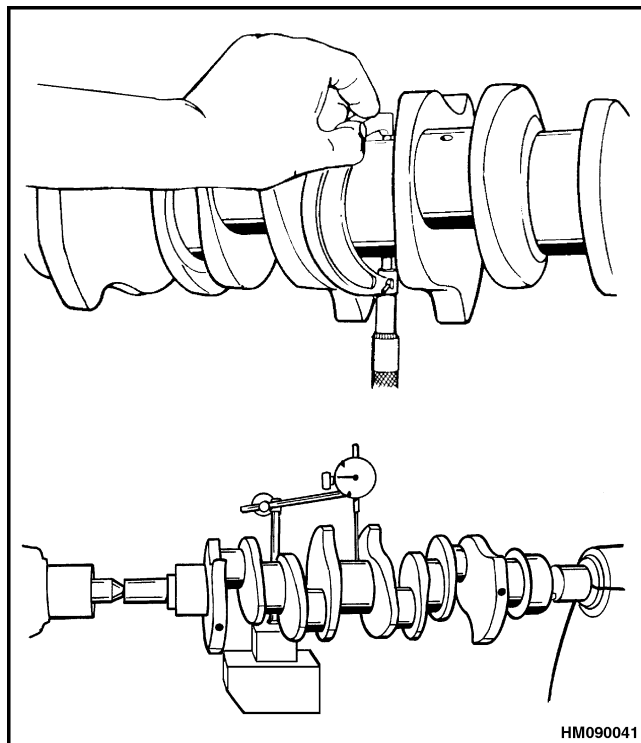

Figure 58. Crankshaft Journal Measurement
3. Use a micrometer to measure the journals for the bearings of the crankshaft. See Figure 58. Take the measurement at different positions to see if the surface of the bearing is round. The correct sizes are given in the Engine Specifications.